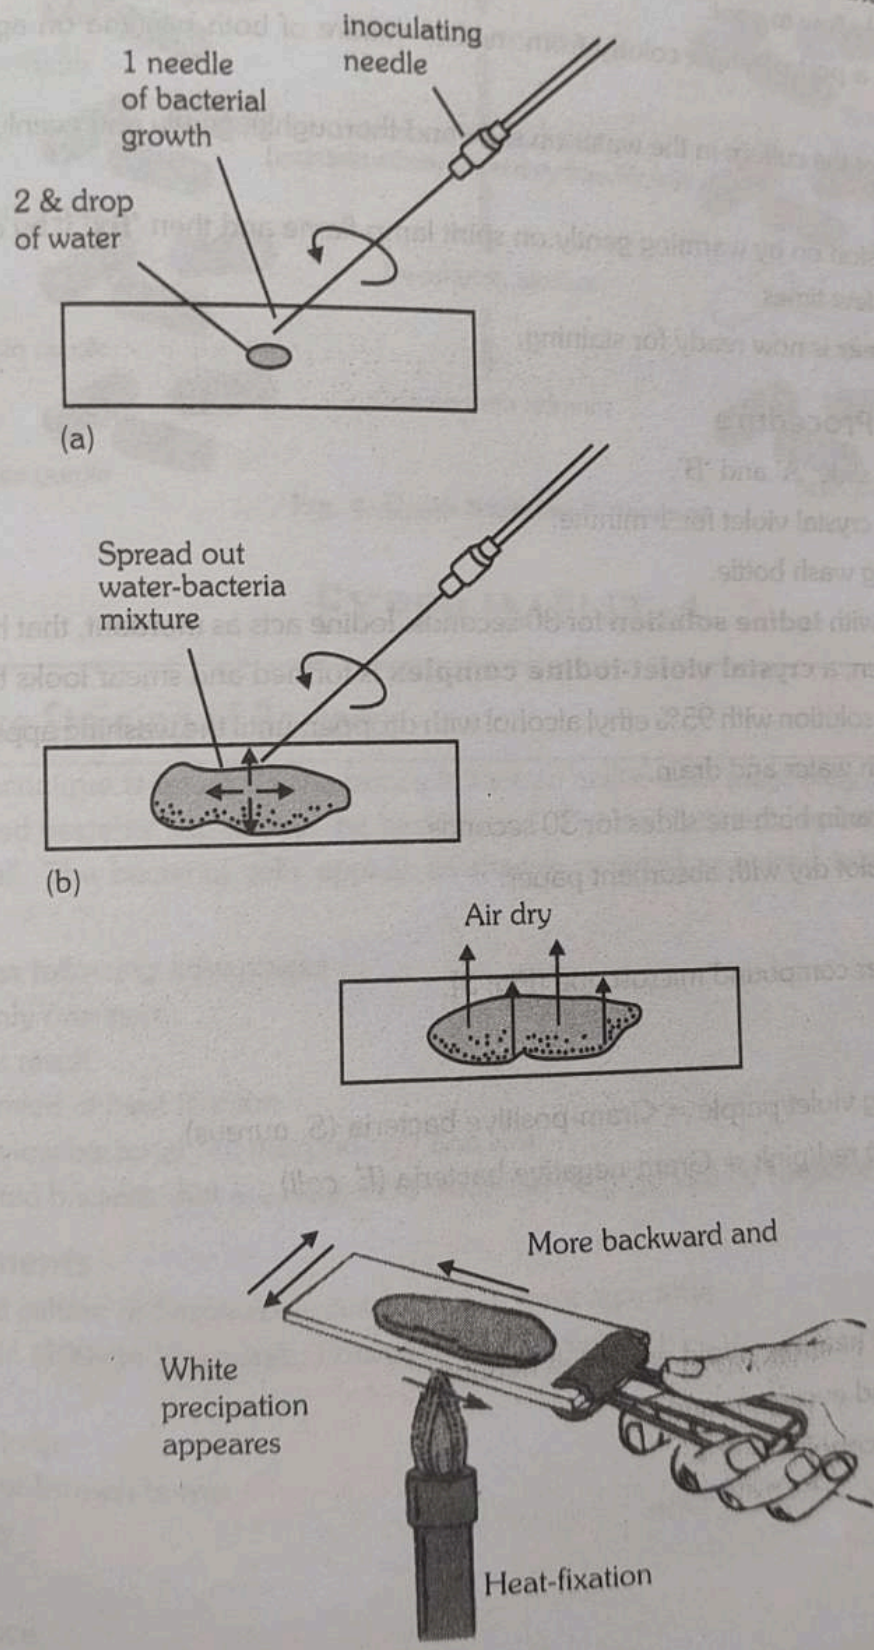

Fig. 3: Bacterial Smear Preparation
10. Examine the slide under compound microscope (Fig. 3).